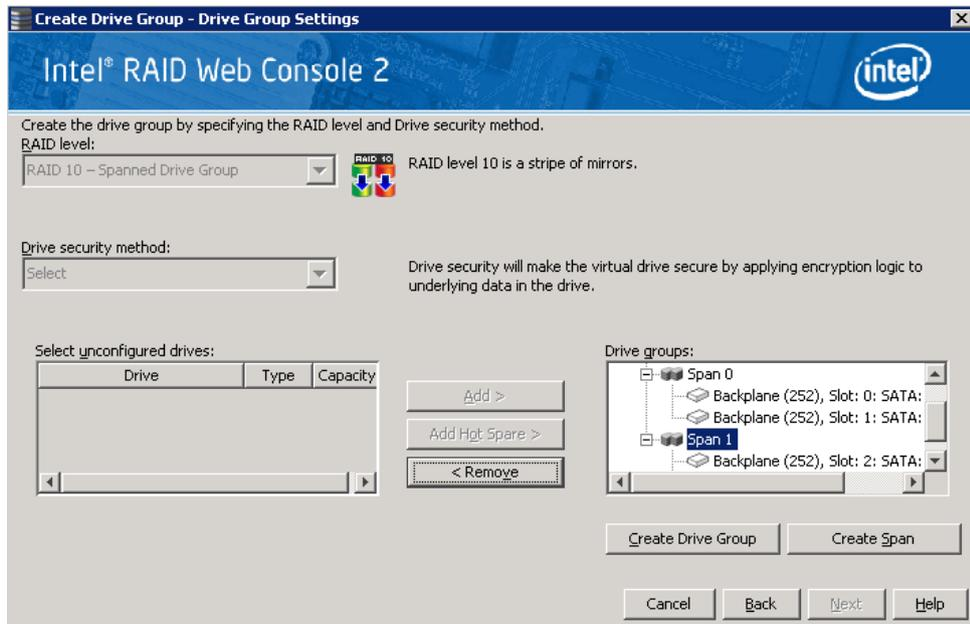

Figure 104. Span 0 and Span 1 of Drive Group 0
- e. The selected drives appear under **Span 1** below **Drive Group 0**, as shown in Figure 104